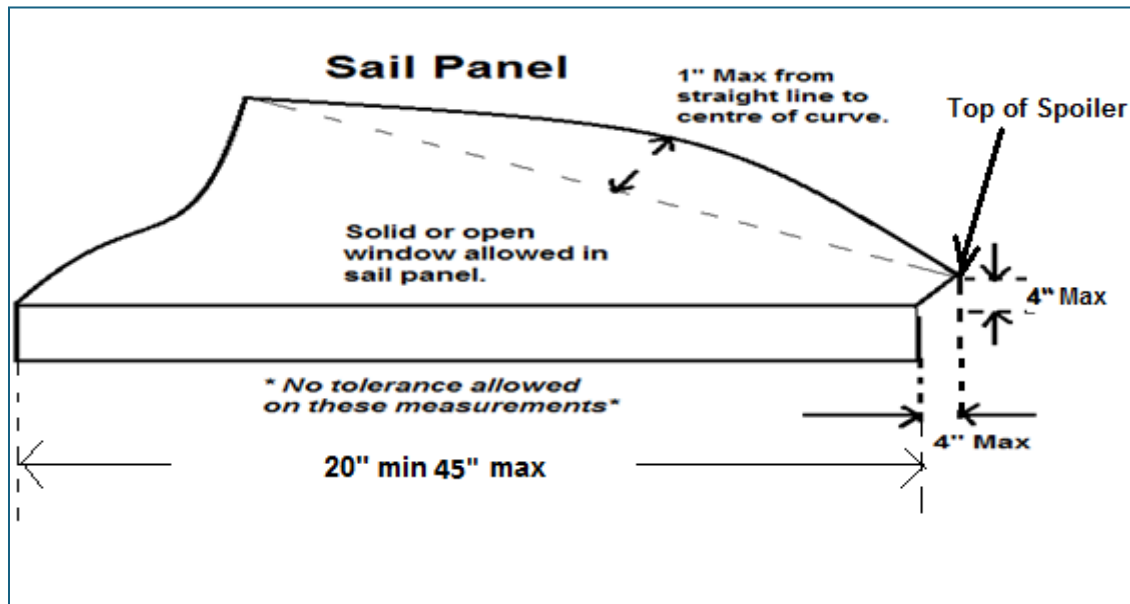

Figure 7
10.3 Sail panel must not exceed 1" (one) inch above or 3" (three) below an imaginary straight line from the rear edge of roof panel to 4" above the top edge of the back of the rear quarter panel (top of spoiler if used). Measurements are taken looking from the side elevation (*Figure 7 & 8*).
- 13.1** A one piece, aluminium or Lexan spoiler with a maximum height of 4 inches above the back of the rear deck will be permitted. The top of the spoiler may extend past the end of the rear deck by 4" (*Figure 7 & 8*).